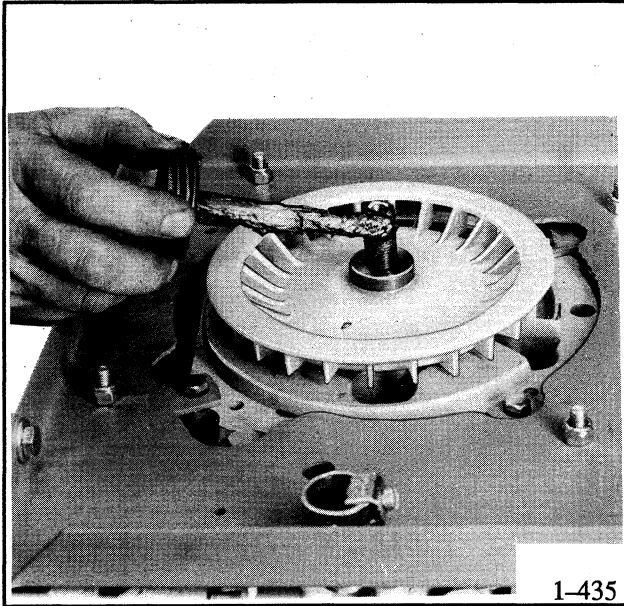

Figure 5-13. Applying Anti-Seize Compound.
1. Clean rotor shaft and crankshaft threads with compressed air. Install fan. Coat crankshaft threads with anti-seize compound. Figure 5-13. Thread rotor onto crankshaft, turning handtight. Final tighten by placing a wood block against the leading edge of one of the rotor poles and tightening with slight hammer blows.